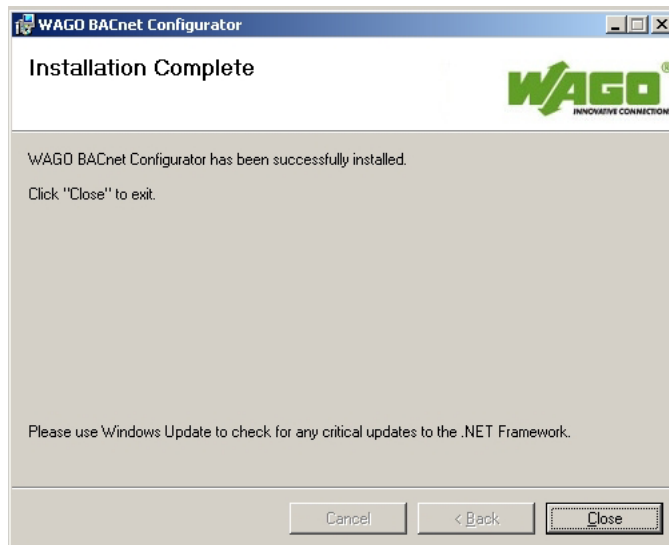

Fig. 2-7: End installation
7. Click in the installation window on [Close] to end the setup (see Fig. 2-7).